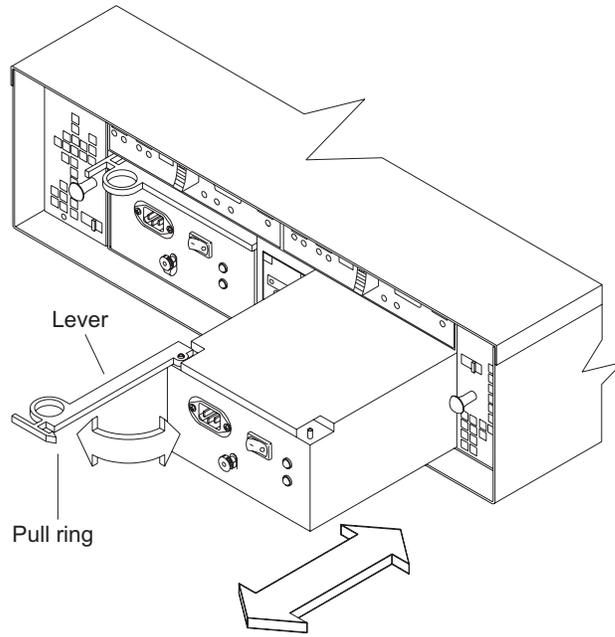

Figure 14. Removing a power supply
2. Pull the lever open 90° and remove the power supply, as shown in Figure 14 on page 29.